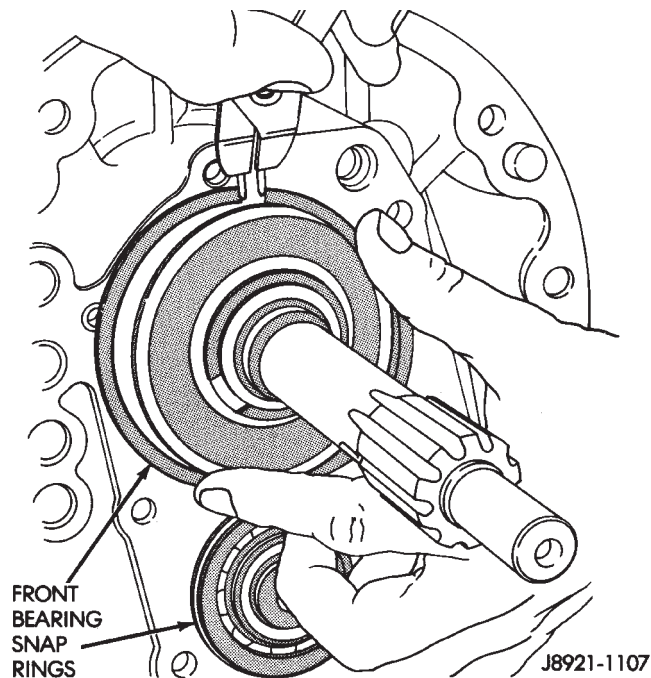

Fig. 38 Install Front Bearing Snap-rings
(4) Install new front bearing snap rings (Fig. 38).
(5) Apply 1/8 inch wide bead of Threebond® Liquid Gasket TB1281, P/N 83504038, to the front bearing retainer sealing surface.